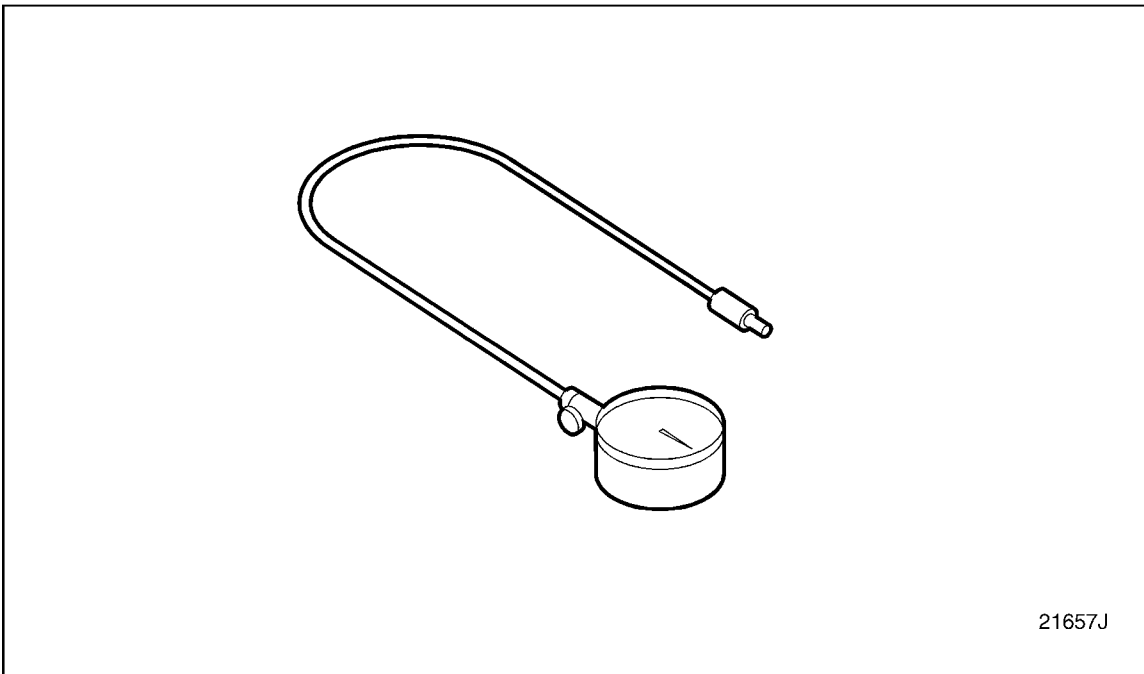

Figure 5-3 Attach Cylinder Compression Gauge J 6692-B
18. Attach cylinder compression gauge (J-6692-B) to the first adaptor. See Figure 5-3.